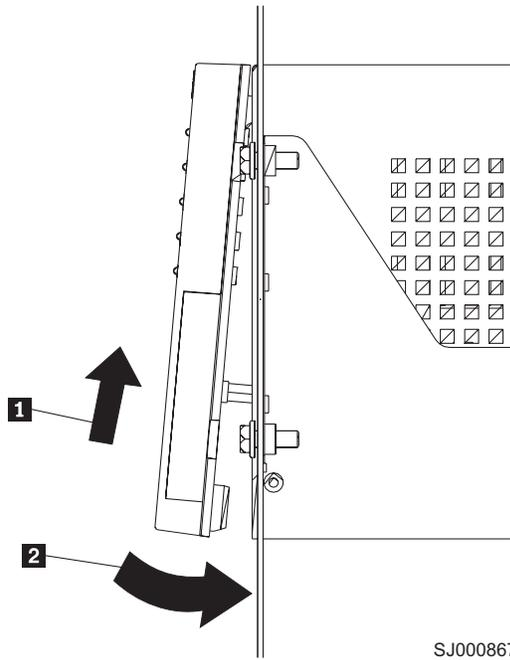

Figure 16. Replacing the controller-unit bezel (machine types 3552 [FASt500] and 1742 [DS4400 and DS4500])
4. To replace the bezel, slide the top edge under the lip on the chassis **1**. Then push the bezel bottom until the pins snap into the mounting holes **2**, as shown in Figure 16 on page 46.